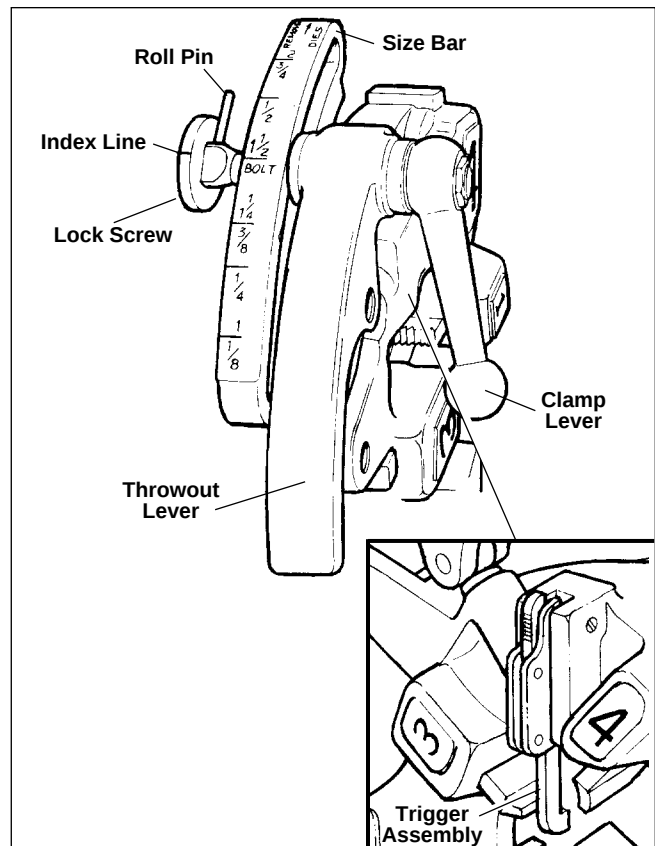

Figure 11 – Universal Self-Opening Die Head
6. Self-Opening 815A Die Head (*Figure 11*) – When the die head trigger contacts end of pipe, throwout lever is automatically opened.
The No. 811A Universal Die Head (*Figure 11*) for right hand threads requires four sets of dies to thread pipe ranging from $\frac{1}{8}$ " through 2". One set of dies is required for each of the following pipe size ranges: ($\frac{1}{8}$ "), ($\frac{1}{4}$ " and $\frac{3}{8}$ "), ($\frac{1}{2}$ " and $\frac{3}{4}$ ") and (1" through 2"). Bolt threading requires a separate set of dies for each bolt size. No bolt dies are available for left hand universal die heads.